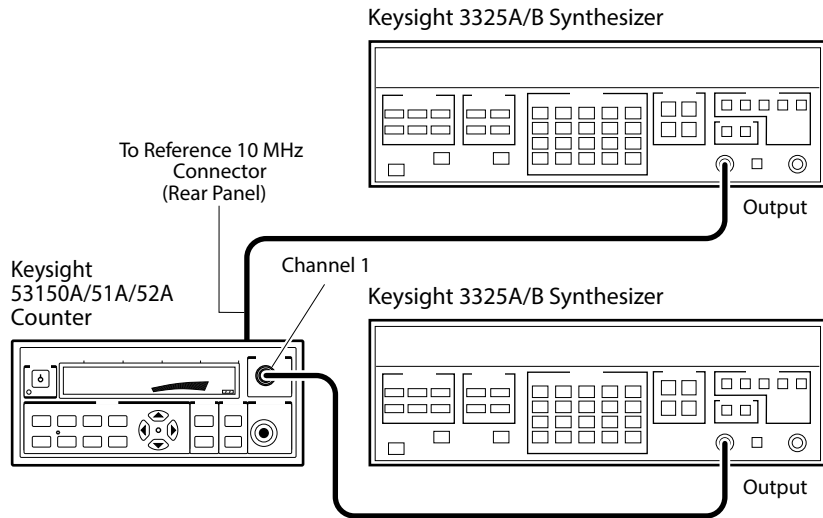

Figure 1-2 External Timebase Test Setup
- 1 Connect an Keysight 10503 series coaxial cable between the output of the first Keysight 3325A/B Synthesizer and the **Reference 10MHz** connector on the Counter's rear panel (see Figure 1-2).